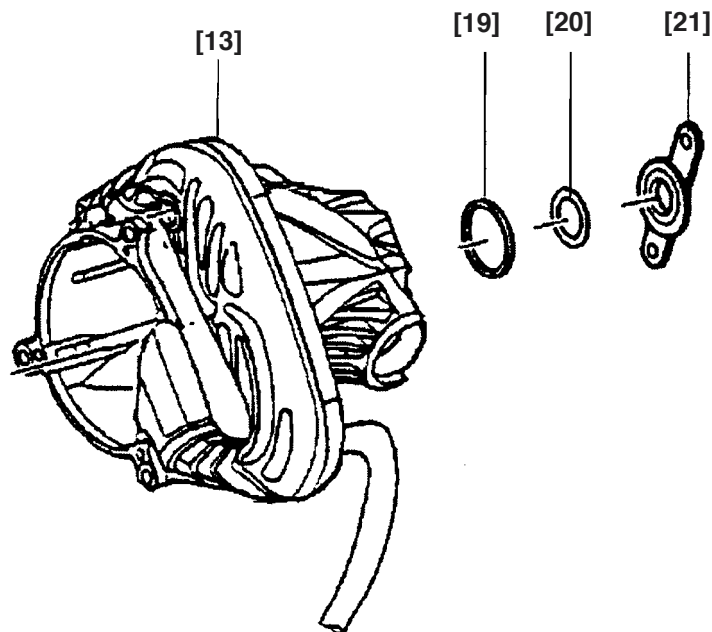

Fig. 7
(6) Disassembly of the Bearing Bushing [21] (Fig. 7)
- ① Pull out the Bearing Bushing [21] from the Housing Ass'y [13]. Remove the Rubber Ring [19] and the Rubber Washer [20] from the inside of the Bearing Bushing [21].